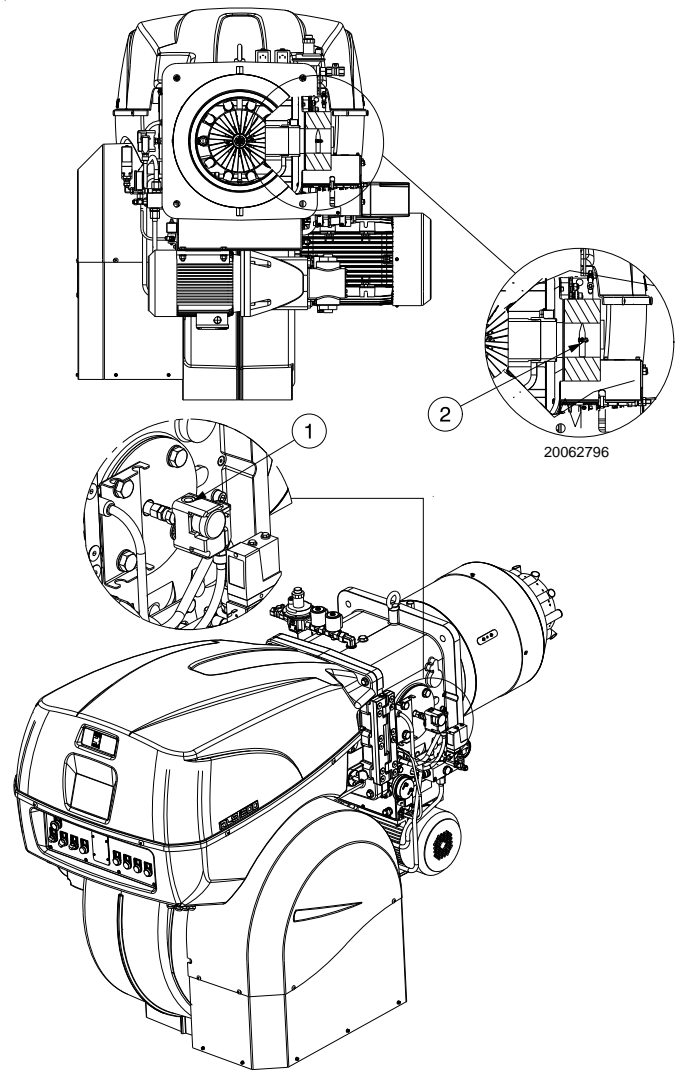

Fig. 26
Gas pressure measured at test point 1)(Fig. 26), with:
Pressure loss at gas butterfly valve 2)(Fig. 26) with maximum opening: 90°.
- subtract the combustion chamber pressure from the gas pressure measured at test point 1)(Fig. 26).
Gas pressure at test point 1)(Fig. 26) = 44.2 mbar
To calculate the required gas pressure at test point 1)(Fig. 26), set the maximum modulating output required from the burner operation:
- Read, on the right (column 1), the pressure at the test point 1) (Fig. 26).
pressure required at test point 1)(Fig. 26).